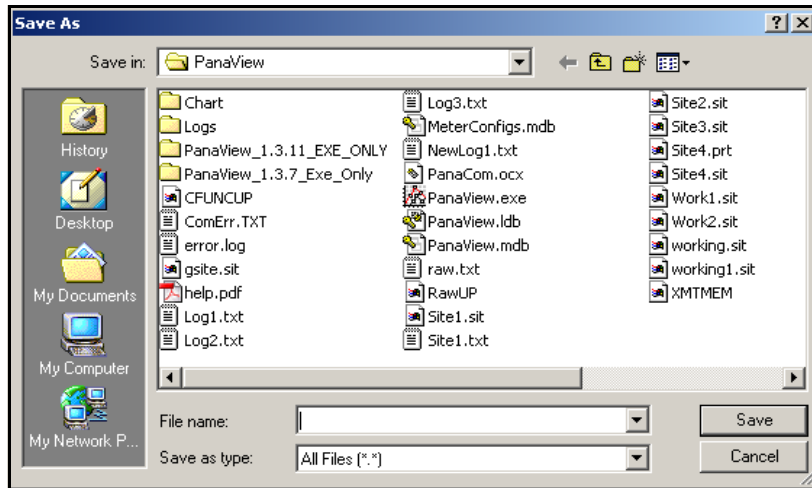

Figure 13: Saving Signal Array Data to File
- If you double-click on *To File*, another window opens similar to *Figure 13* below. Enter a file name and click [Save]. PanaView stores the array data in a Windows file, and closes the *Calibration/Test* window.
- If you double-click on *To File*, the *Save As* window (similar to Figure 13 on page 47) opens. Enter a file name and click [Save]. PanaView stores the array data in a Windows file, and closes the *Calibration/Test* window.